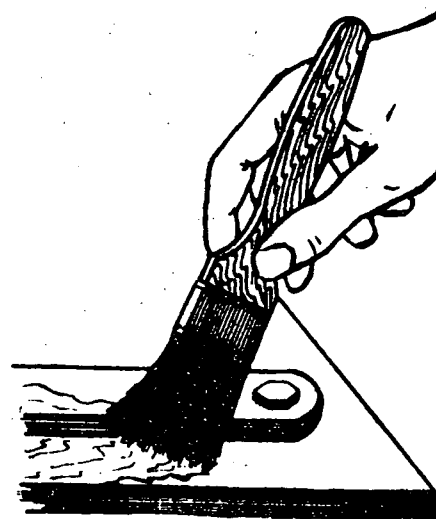

Fig. 1
- a) Apply the remover with a brush (Fig. 1).